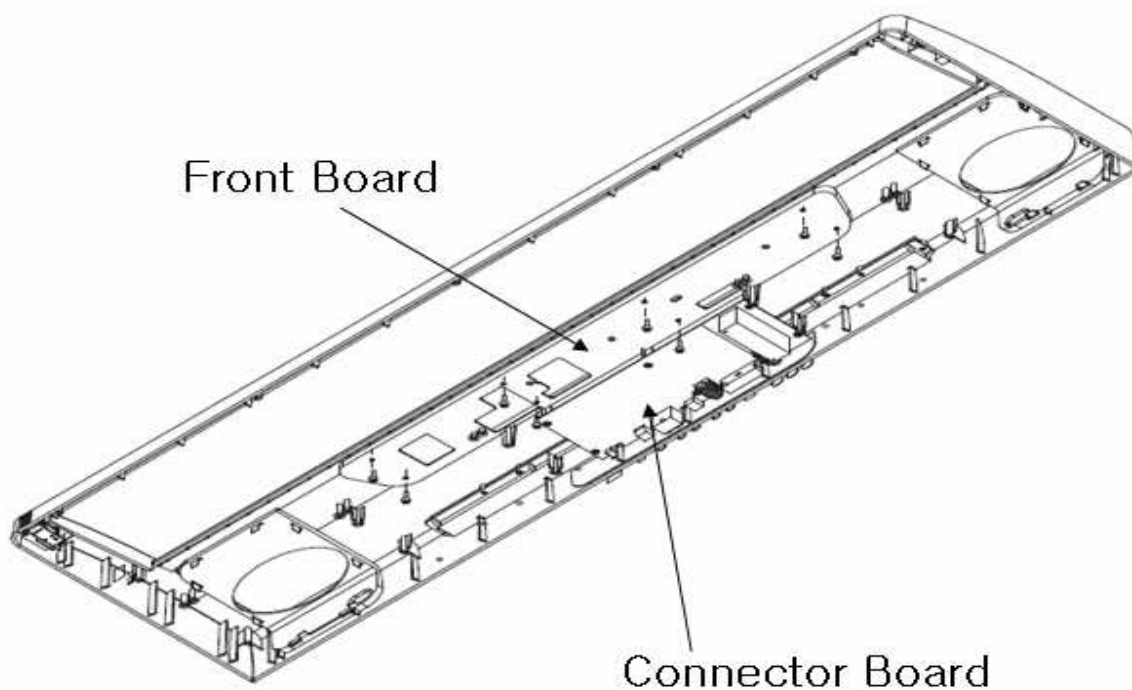

Figure 3-5 SP2XS front keyslip screws assembly
2. Refer to Figure 3-5. (board position)
5. Install the five screws that secure the Audio Board to the top enclosure. See Figure 3-5 for the locations of the screws and spacers.
2. Refer to figure3-5 and the cables listed in Table 4-2.